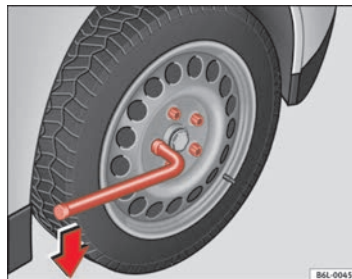

Fig. 136 Changing the wheel: loosen the wheel bolts
- Grasp the box spanner by the end turn it about one full turn to the **left** ⇒ fig. 136.